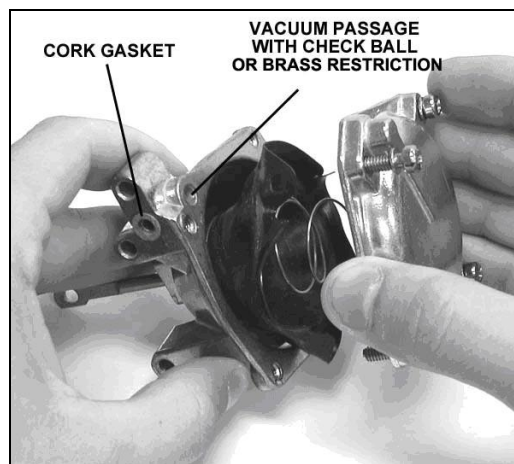

Figure 16
5. Gently remove the cover. Take care as not to tear the diaphragm or loose the check ball (Figure 16). **NOTE: Your secondary housing may have a brass restriction inserted where the check ball should be. If that is the case, please disregard all references to the check ball as yours does not use a check ball.**